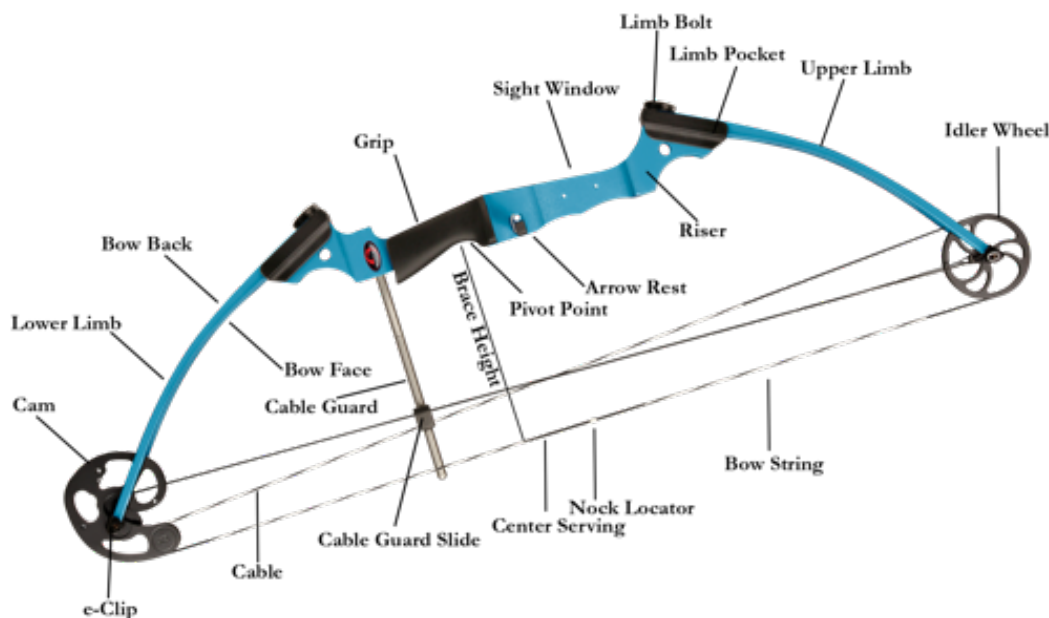

Fig. 8.2
- D. Students should follow the instructor by also pointing to and naming the part. **(Figure 8.2)**